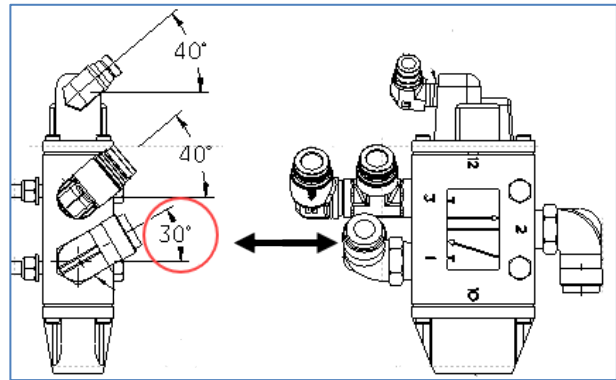

Figure 9
10) Rotate the elbow 30° from the horizontal as shown on Figure 9.